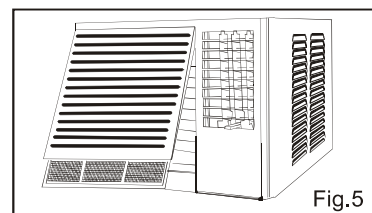

Fig.5
- 1) Remove the front panel. (Fig.5)